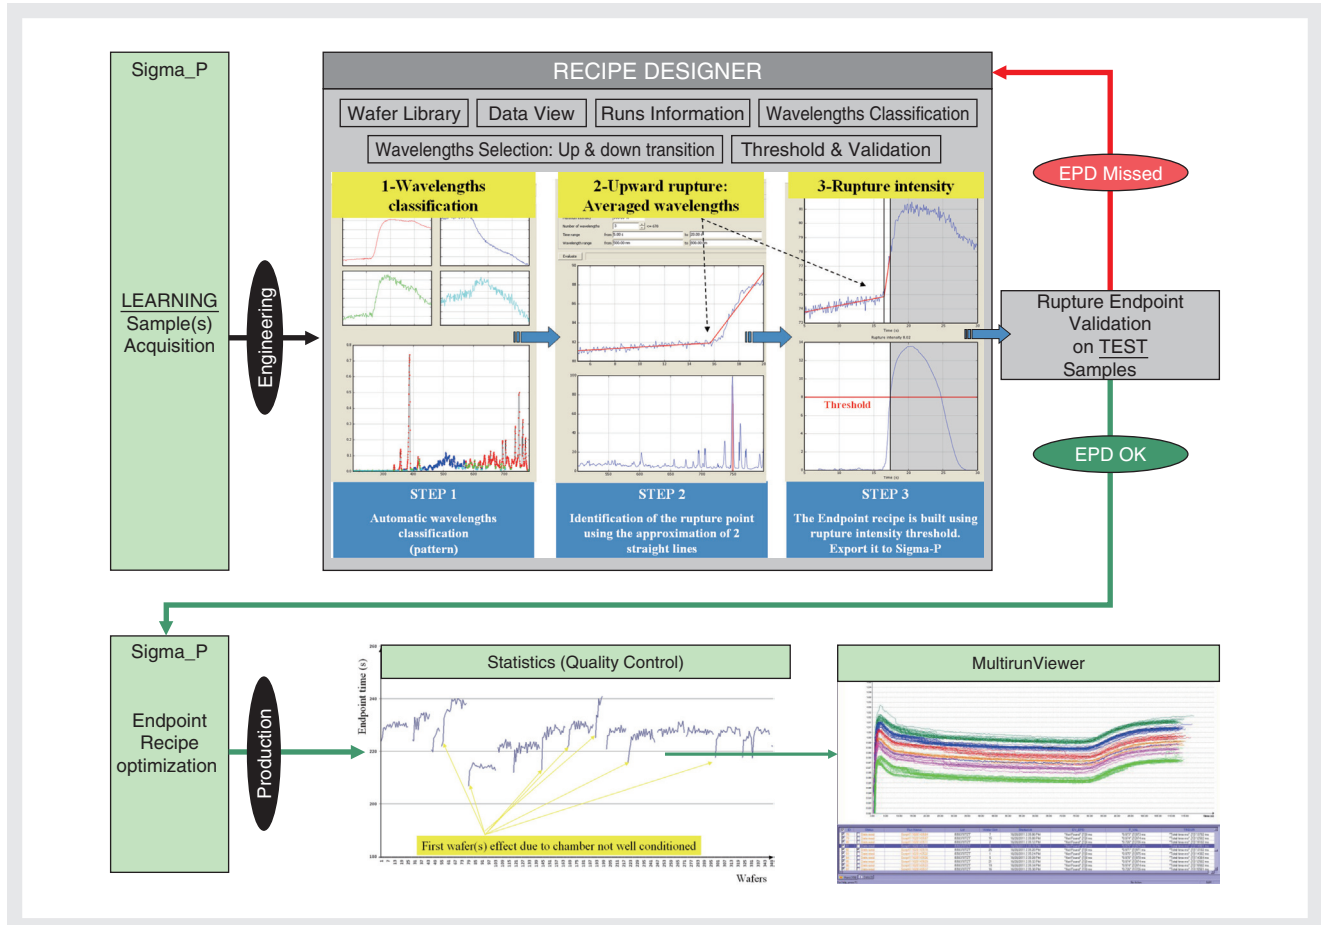

Figure 3 Recipe designer engineering flow: From spectra acquisition to Endpoint on Production
On the Figure 3, the principle of Endpoint detection using Recipe Designer is illustrated. This software permits to extract *semi-automatically* relevant wavelengths contained on raw spectra, characteristic of
Rupture slope may be “upward” or “downward”. Working simultaneously on several runs result, Recipe Designer defines a threshold on the best rupture intensity and then check validity over those samples, as shown on Figure 3.
- Statistics (Figure 3): EPD stability, EPD missed, 1st wafer effect...
- Multi-runs Viewer (Figure 3): 1 color = 1 batch of 25 wafers.